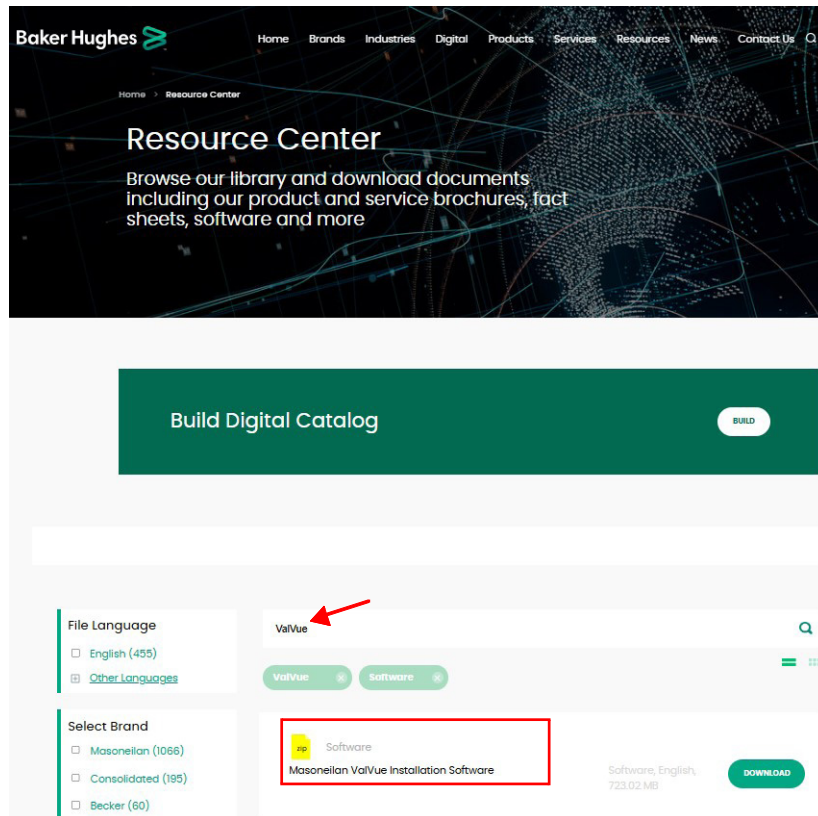

Figure 8 - Resource Center: Search for ValVue
1. Go to the *Resource Center* (<https://valves.bakerhughes.com/resource-center>) and enter *ValVue* in the search field (arrow in Figure 8).
The results appear (red box in Figure 8).